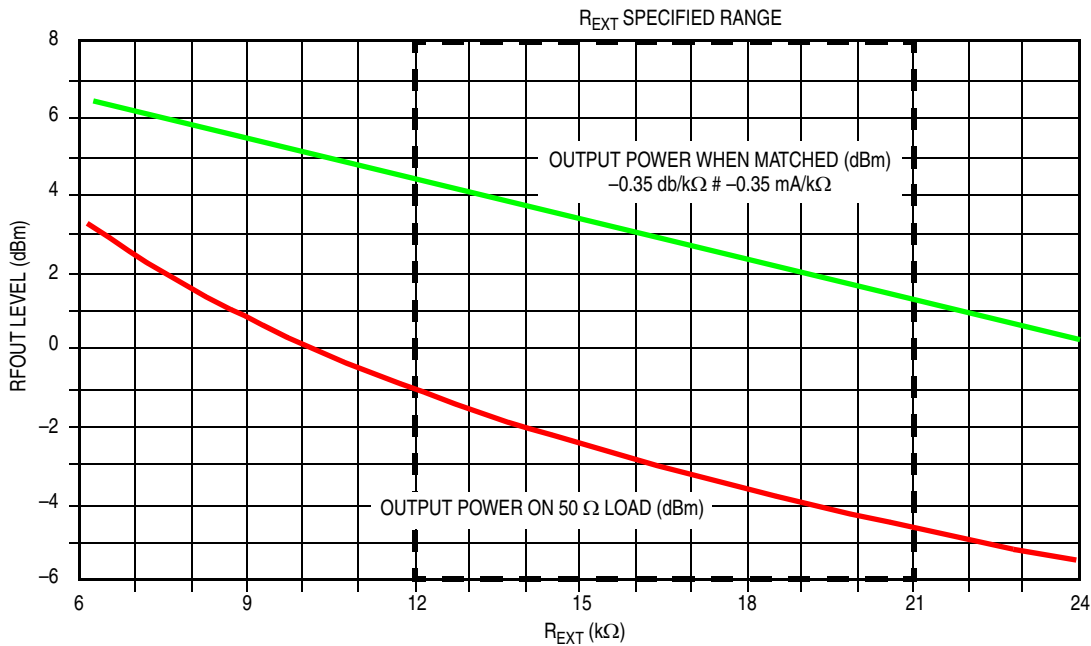

Figure 14-6. Output Power at 434-MHz Frequency Band versus REXT Value
**Figure 14-6** gives the output power versus the  $R_{EXT}$  resistor value, in both cases with 50- $\Omega$  load and with matching network.